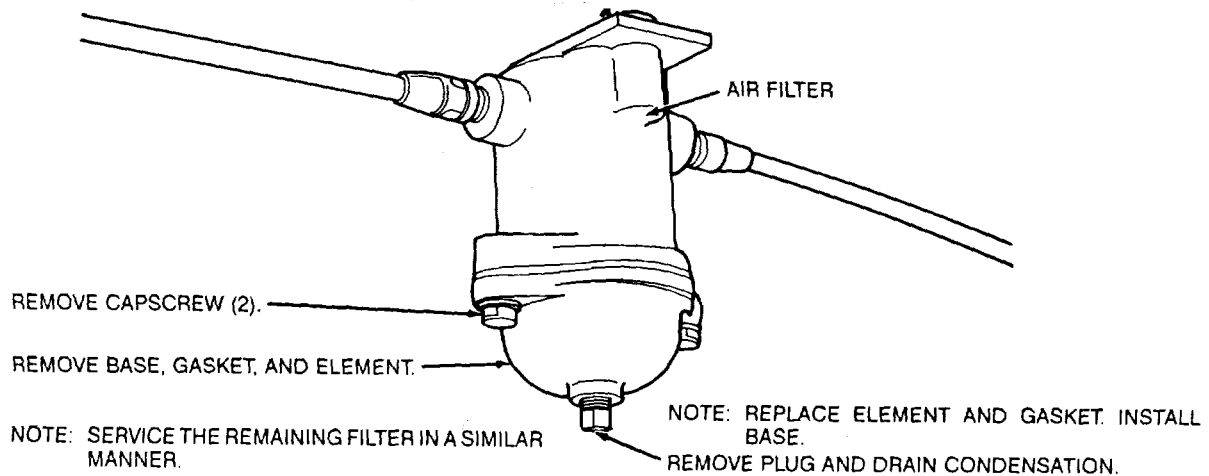

Figure 49. Air system filter service.
- b. Service the air filters (fig. 49).